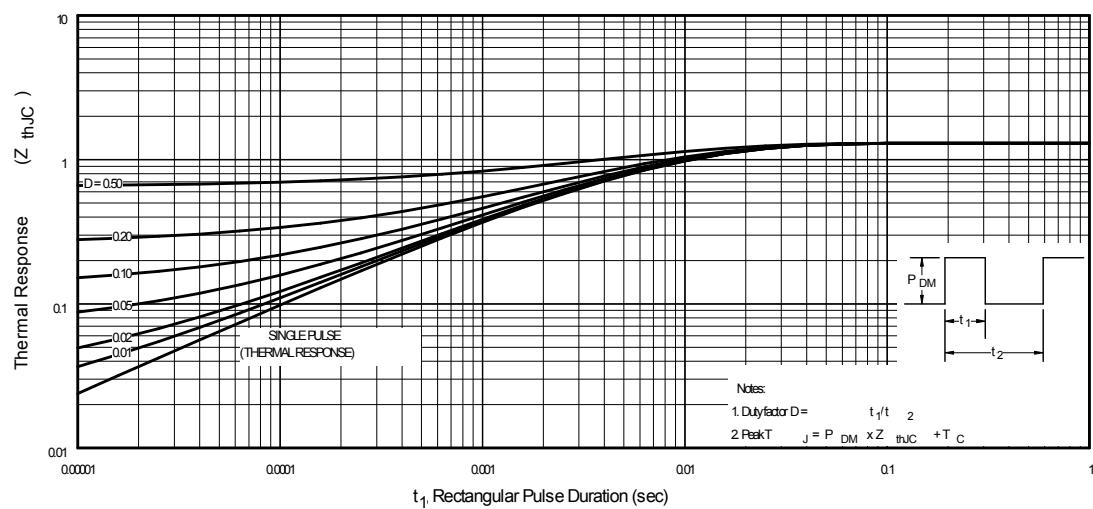
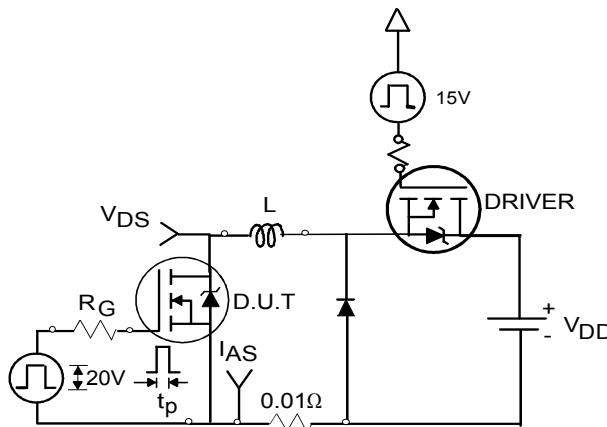

Fig 11. Maximum Effective Transient Thermal Impedance, Junction-to-Case
Fig 12a. Unclamped Inductive Test Circuit
- ① Repetitive rating: pulse width limited by max. junction temperature. (See fig. 11)
- ② Limited by T_{Jmax} , starting $T_J = 25^\circ\text{C}$, $L = 0.45\text{mH}$, $R_G = 25\Omega$, $I_{\text{AS}} = 30\text{A}$, $V_{\text{GS}} = 10\text{V}$. Part not recommended for use above this value.
- ③ $I_{\text{SD}} \leq 30\text{A}$, $di/dt \leq 280\text{A}/\mu\text{s}$, $V_{\text{DD}} \leq V_{(\text{BR})\text{DSS}}$, $T_J \leq 175^\circ\text{C}$.
- ④ Pulse width $\leq 1.0\text{ms}$; duty cycle $\leq 2\%$.
- ⑤ $C_{\text{oss eff.}}$ is a fixed capacitance that gives the same charging time as C_{oss} while V_{DS} is rising from 0 to 80% V_{DSS}
- ⑥ Limited by T_{Jmax} , see Fig. 12a, 12b, 15, 16 for typical repetitive avalanche performance.
- ⑦ This value determined from sample failure population, starting $T_J = 25^\circ\text{C}$, $L = 0.45\text{mH}$, $R_G = 25\Omega$, $I_{\text{AS}} = 30\text{A}$, $V_{\text{GS}} = 10\text{V}$.
- ⑧ When mounted on 1" square PCB (FR-4 or G-10 Material). For recommended footprint and soldering techniques refer to application note #AN-994
- ⑨ R_0 is measured at T_J approximately 90°C .
3. Equation below based on circuit and waveforms shown in Figures 12a, 12b.